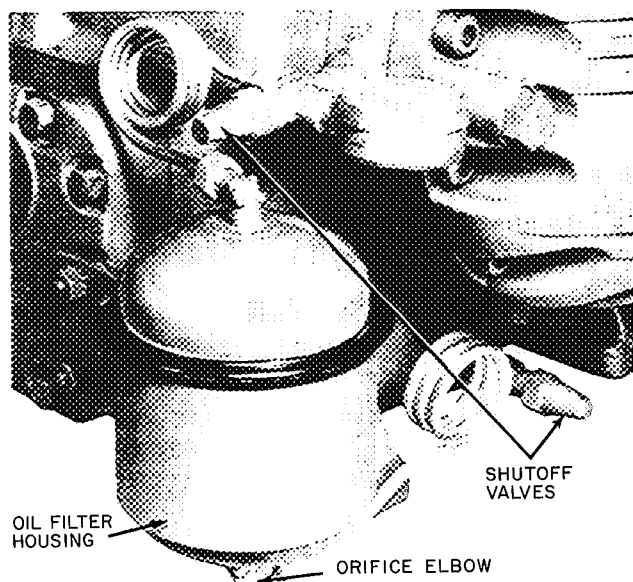

Fig. 26 – Oil Filter Accessory Package (5H40 thru 5H86)
OIL FILTER MAINTENANCE – An accessory oil filter is available for 5H40 thru 5H86 compressors. This filter is a bleed-type, high-pressure throwaway filter as shown in Fig. 26. The oil filter should be replaced after the first 50 hours of operation and whenever the oil is changed or becomes dirty.
1. Close the oil-line shutoff valves on each side of the filter (Fig. 26).